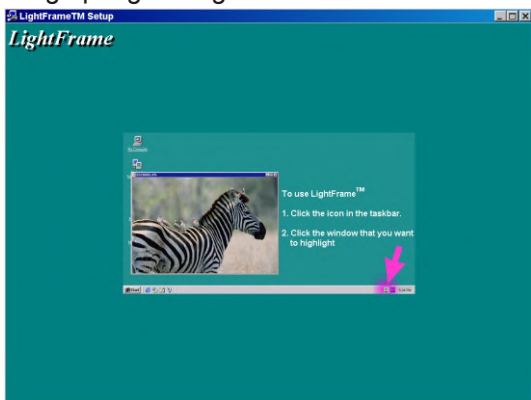
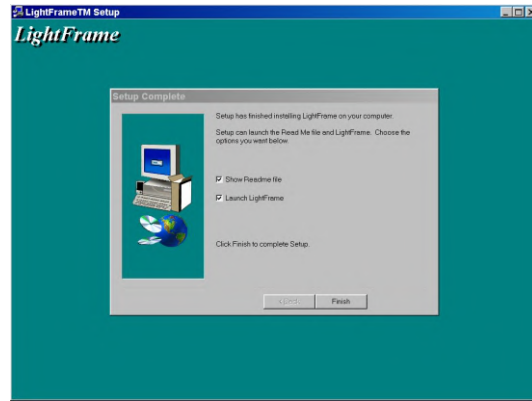

Fig 8
Fig 9
8. Click Next, bring up Fig8 & Fig 9